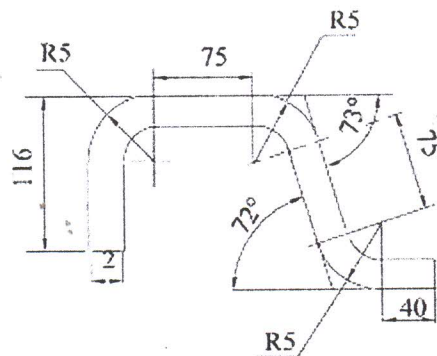

Figure 1.1
- a) Determine the maximum bend radius of U-profile in Fig. 1.1, using steel as the material with 750 MPa Ultimate Tensile Strength, 620 MPa Yield Strength, 2 mm thickness, 215 000 MPa Modulus of Elasticity.
- b) Design the pre-bend size of the blank to produce a part as shown in Fig 1.1 with 2 mm material thickness. Values of coefficient  $\xi$  is provided in Table 1.1